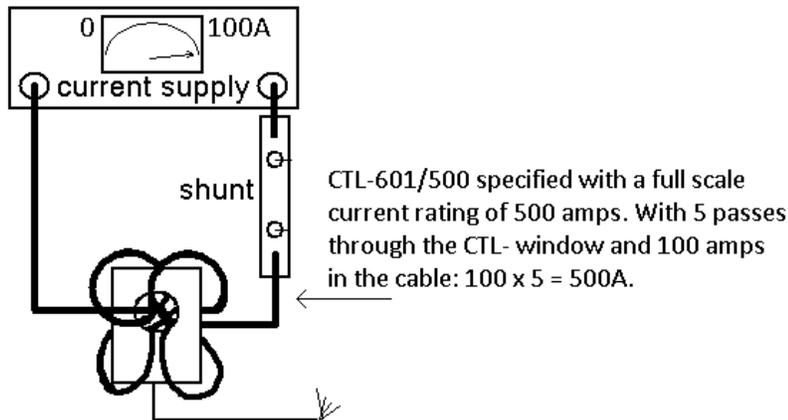

Figure 6
The available current supply may not have a full range that meets the Sensor's rated current. Running multiple turns through the sensor window (equally spaced throughout the entire window), provides an effective and accurate way to achieve full current (for both DC or AC calibration). An example of DC setup is shown in figure 6.
- \* Verify the number of amp-turns through the CTL (only if running turns. Turns are not required. See figure 6). Count the number of turns in the center of the sensor window, not the outside number of turns (wraps).